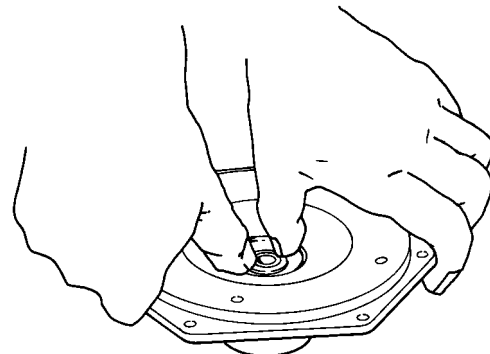

Figure 24 – Press in New Seal
- Put clean cardboard washer on seal face. With thumb pressure, press ceramic seal half firmly and squarely into seal cavity in copper heat sink (See Figure 24). Polished face of ceramic seat is up. If seal will not seat correctly, remove, placing seal **face up** on bench. Reclean cavity. Seal should now seat correctly.